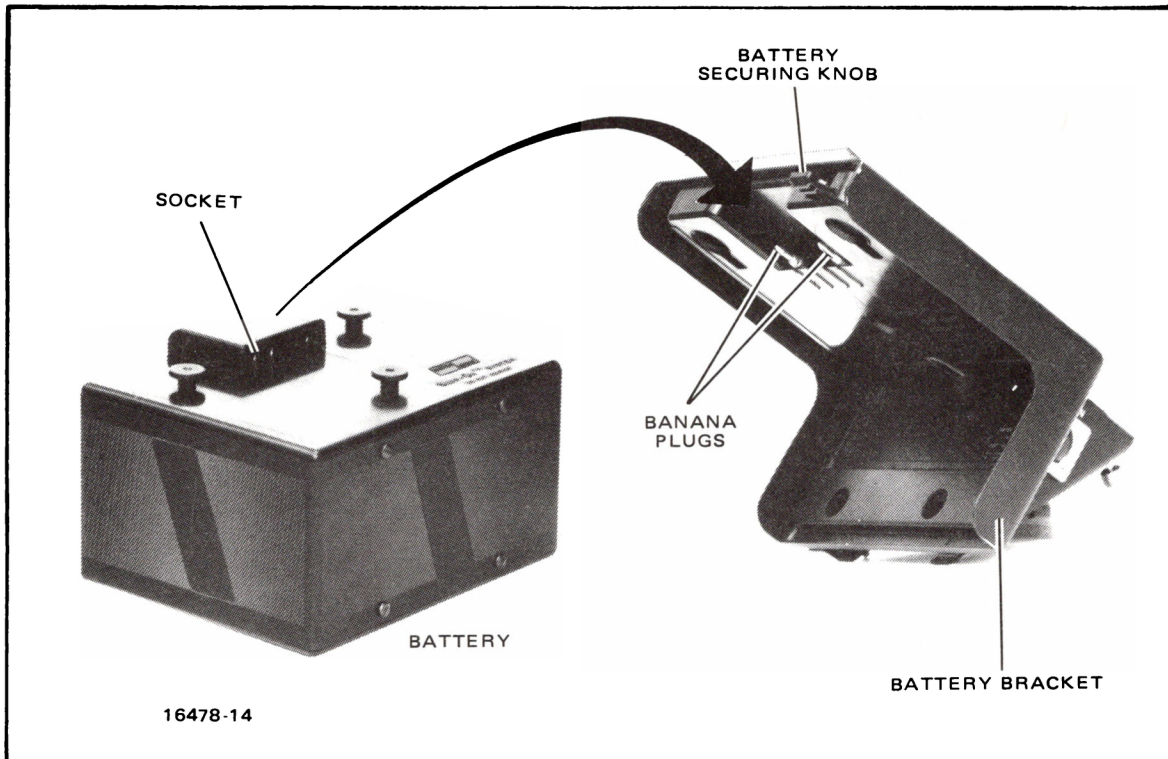

Figure 2-5. Battery Connection
- STEP 1 Align banana plug on battery bracket with socket on battery. See Figure 2-5.